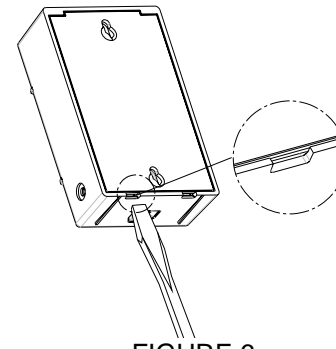

FIGURE 6
- Insert a flat bladed screwdriver into the slot at the bottom of the Door Bell. Lever the cover and base apart (FIGURE 6).